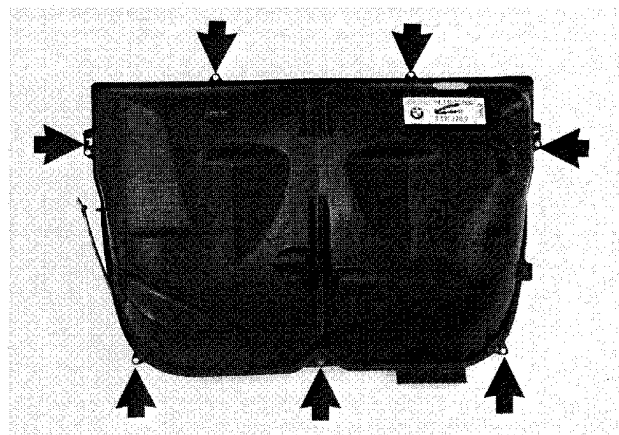

Fig. 18. Screws retaining front heater box cover (shown removed) to heater box (arrows).
8. Remove front heater box cover. See Fig. 18.